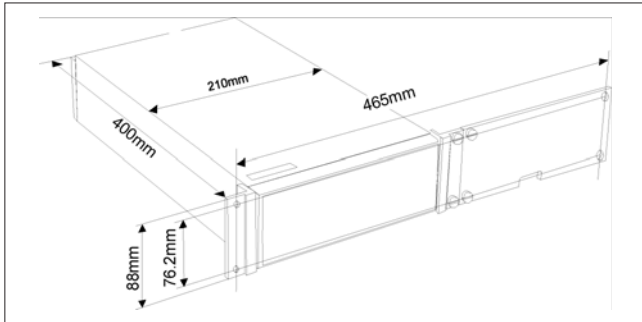
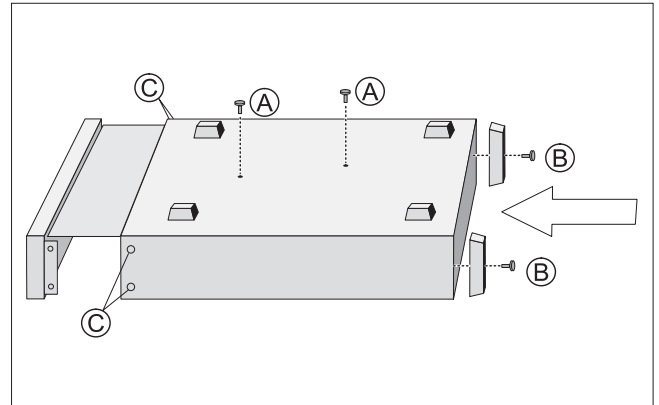

Fig. 1-1 Dimensions for rackmounting hardware.
Fig. 1-3 Remove the screws and push the counter out of the cover.
- Turn the instrument upside down. See Fig. 1-3.
- Undo the two screws (A) and remove them from the cover.
- Remove the rear feet by undoing the two screws (B).
- Remove the four decorative plugs (C) that cover the screw holes on the right and left side of the front panel.
- Push the instrument back into the cover. See Fig. 1-3.
- Mount the two rear feet with the screws (B) to the rear panel.
- Put the two screws (A) back.
- Fasten the brackets at the left and right side with the screws included as illustrated in Fig. 1-1.